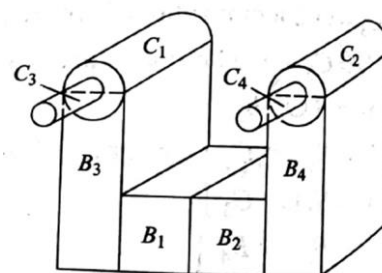

Figure 3
- 4B.** What are the advantages of C-Rep. (minimum 2 advantages). With appropriate diagrams and using C-rep Solid modelling technique efficiently, show the steps to create the mechanical solid model shown in Figure 3.